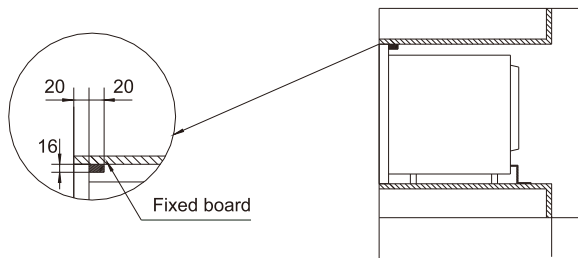

Fig. 3: schematic diagram of fully embedded installation of fixed board
C. When the cabinet is fully embedded, a fixed board shall be installed on the top of the cabinet as shown in Fig. 3.